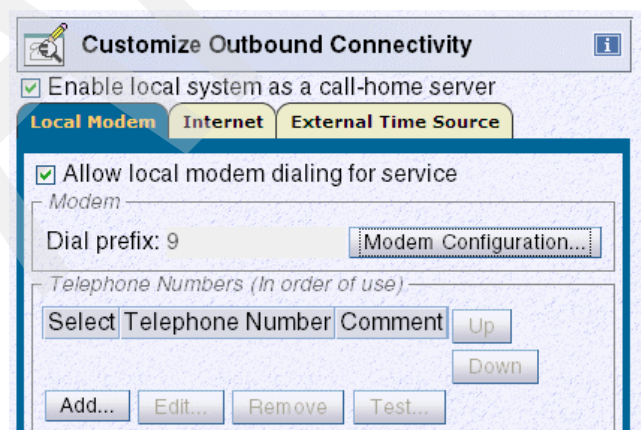

Figure 2-19 Modem configuration
5. Click **Add** on the Customize Outbound Connectivity window (Figure 2-19).